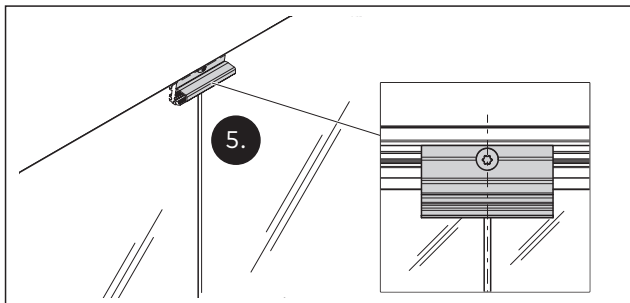

Fig. 37 The position of the glass clamping pieces on the joint between the overpanel and a side panel
5. Attach and fix the clamping pieces in the horizontal mounting profile to the joint between the overpanel and the side panel (Fig. 37).